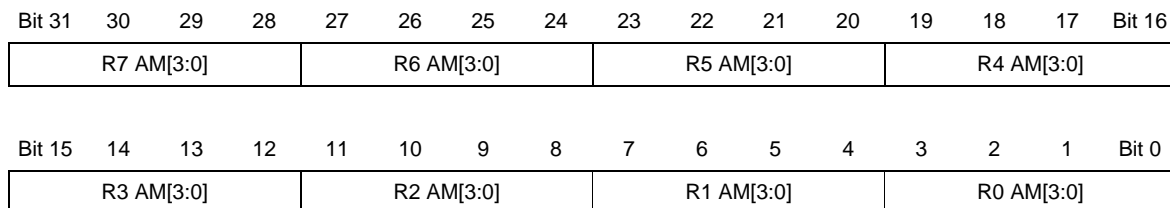

Figure 2-14. Modifier Control Register (MCTL) Format
The MCTL register is a 32-bit read/write register. This control register is used to program the address mode (AM) for each of the eight low address registers (R0–R7). The addressing mode of the high address register file (R8–R15) cannot be programmed and functions in linear addressing mode only. The format of MCTL is shown in Figure 2-14.